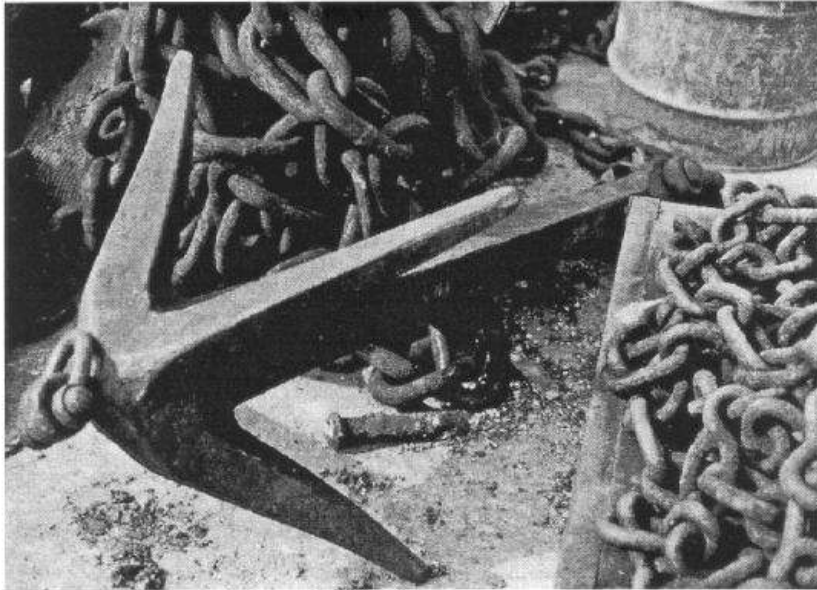

Fig. 8-10 Grapnel (Anchorhawk)
- d When using the heavy grapnel proceed as follows: Use 1-1/8 to 1-1/2 inch chain depending on the size of the buoy to be recovered, shackled to the grapnel. The scope of the chain should be at least three times the depth of the water. Shackle the inboard end of the chain to a padeye on the deck and drop the grapnel over the side, using the chain stopper. Next lift enough chain to put a bite in a pelican hook on deck. Then unshackle the bitter end from the padeye and set it in the chain stopper. Have way on the ship, otherwise the chain will pile up on top of the grapnel and foul, becoming useless. With the grapnel on the bottom and the ship going ahead slowly, hook a cross deck line into the section of chain leading from the pelican hook over the edge of the buoy port. Fairlead it to the anchor windlass. Keep three or four turns of the line on the gypsy head of the windlass until the sunken buoy or chain is hooked. This will be immediately noticeable, as the additional strain will cause the line to surge on the gypsy head. Keep a forward strain on the chain with the ship until you are sure the grapnel is securely hooked in. Haul the chain aboard (See **Figure 8-10.**)